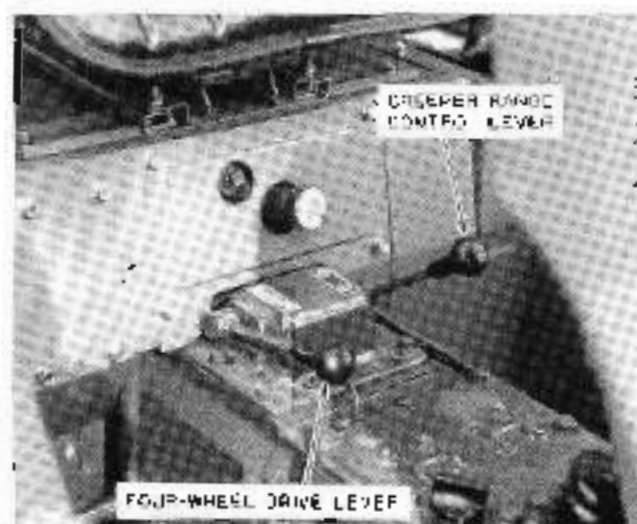

Figure 9 — Creeper Range Control Lever and Four-Wheel Drive Lever
A creeper range with a 7.46 : 1 ratio is available, which provides an additional 12 forward and four reverse speeds or a total of 24 forward and 8 reverse speeds. The control is located on the top left front of the rear-axle center housing, Figure 9.
The shift lever for the four-wheel drive is located on the top right hand front of the rear-axle center housing, Figure 9. Full downward movement of the lever disengages the four-wheel drive (OFF). Full upward movement engages the four-wheel drive (ON).
The four-wheel drive is engaged and disengaged through the use of the lever on the top right hand front of the rear-axle center housing, Figure 9.